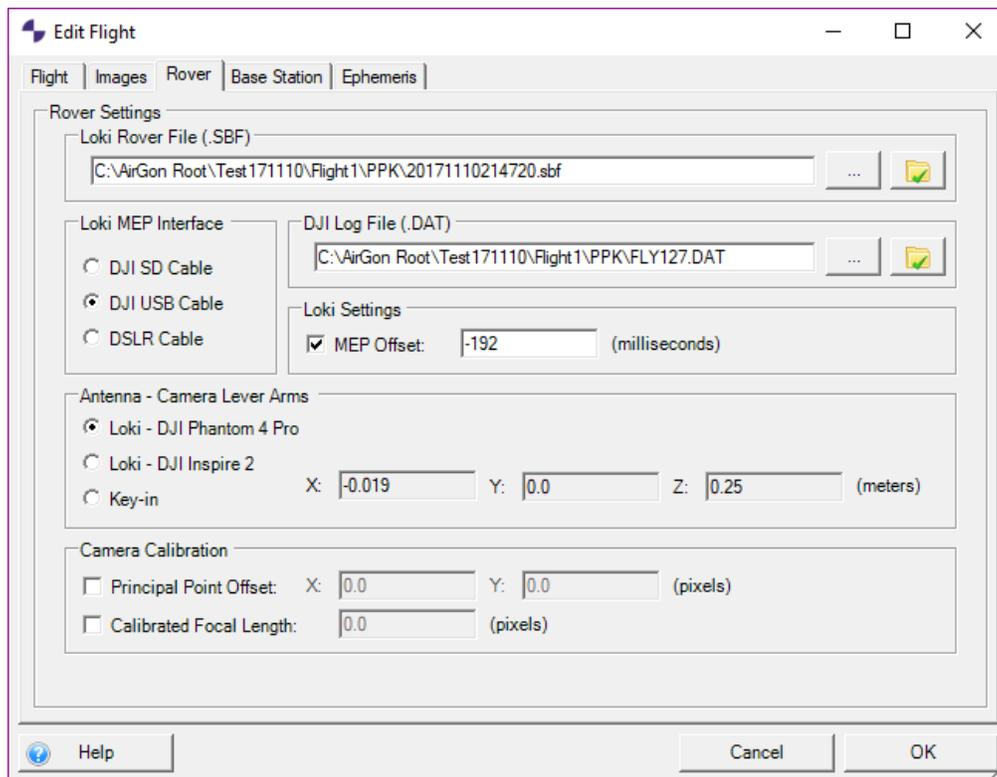

Figure 38 - Rover Tab
13. On the Rover tab, make sure all settings are correct (Figure 38). Update any fields that were left blank during the field check. This tab is covered in more detail on page 6 of this document in *Adding Photos and Importing (Step 2 of 5)*